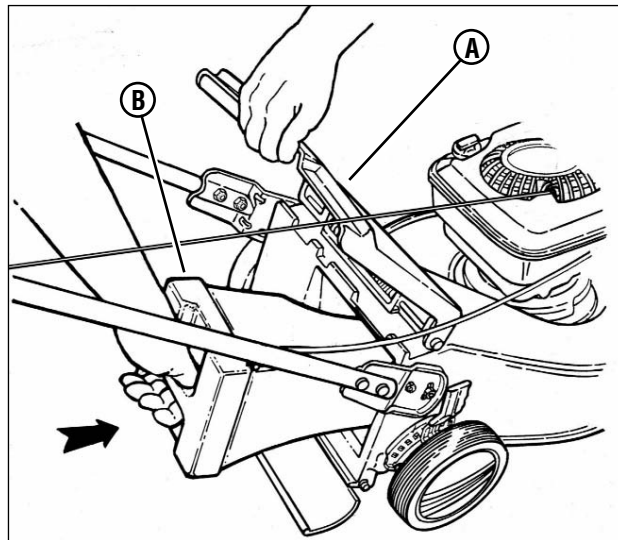

Figure 7: Inserting the recycling plug
Converting this mower to the recycling operation requires no tools. First, STOP the engine. Raise the discharge door (A, Figure 7) located at the rear of machine. Remove the grass catcher (if installed). Insert the recycling plug (B) fully into the discharge opening. Allow the discharge door to close.